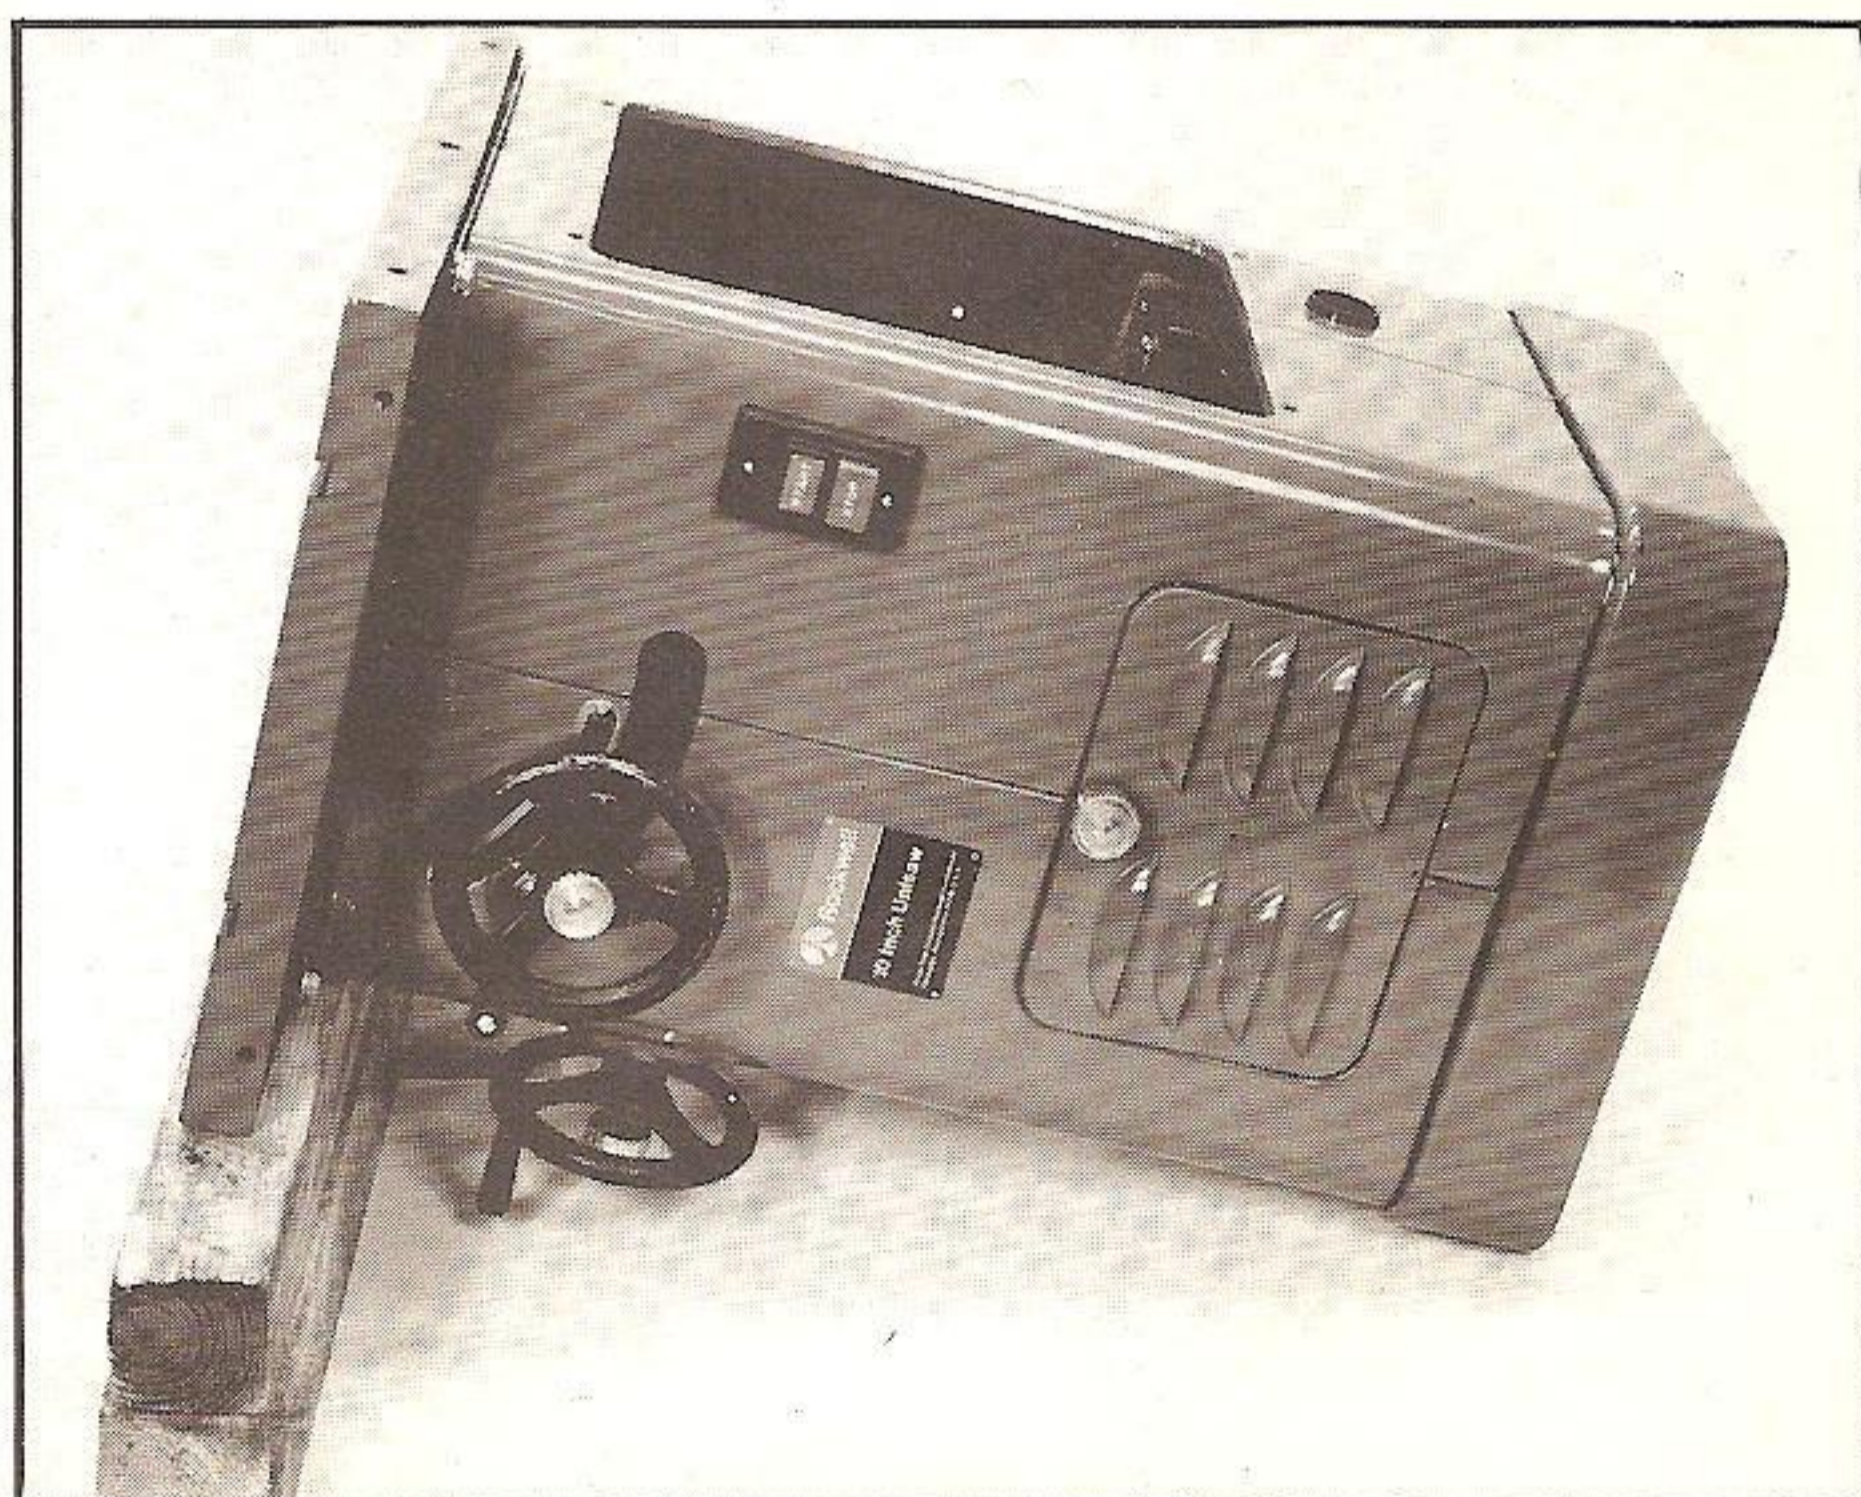

Fig. 3
3. Tilt the saw cabinet, as shown in Fig. 3. Place a block or blocks of wood under the edge of the table, approximately 8 to 10 inches high in order that the tilting handwheel (A) clears the floor, as shown in Fig. 3.